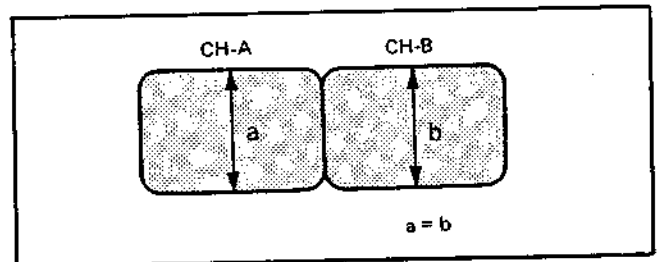

Fig. 4-33
- 4) Match up CH-A and CH-B RF output levels with RP board CH balance. (Fig. 4-33)